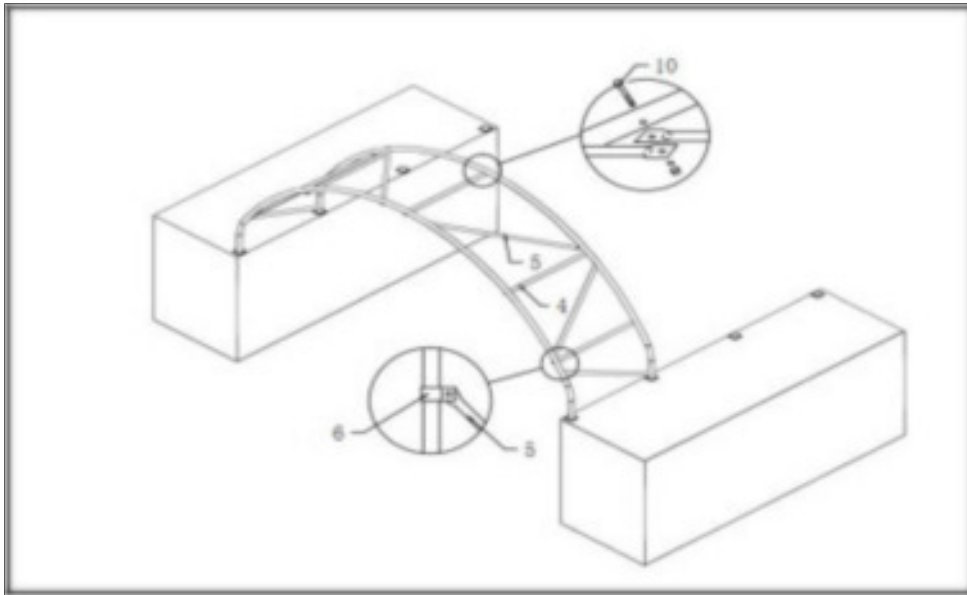

Figure 4
3. After installing the first two arches, connect the Connection purlin (part code 4) onto them using the Bolt M10x80 (part code 10). There are 5 pieces of Connection purlins (part code 4) between each arch. (Refer to figure 4)